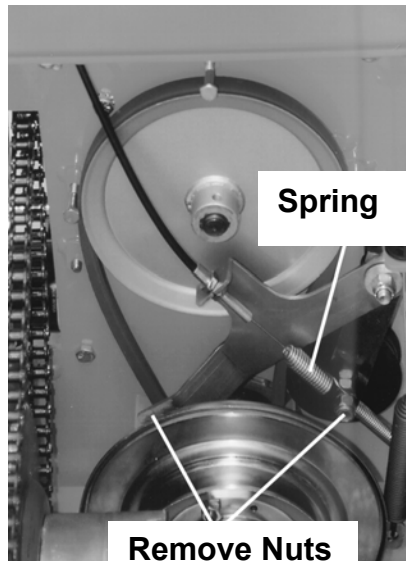

Figure 16
5. Remove the nuts on the clutch bracket and the clutch drive spring (*Figure 16*).